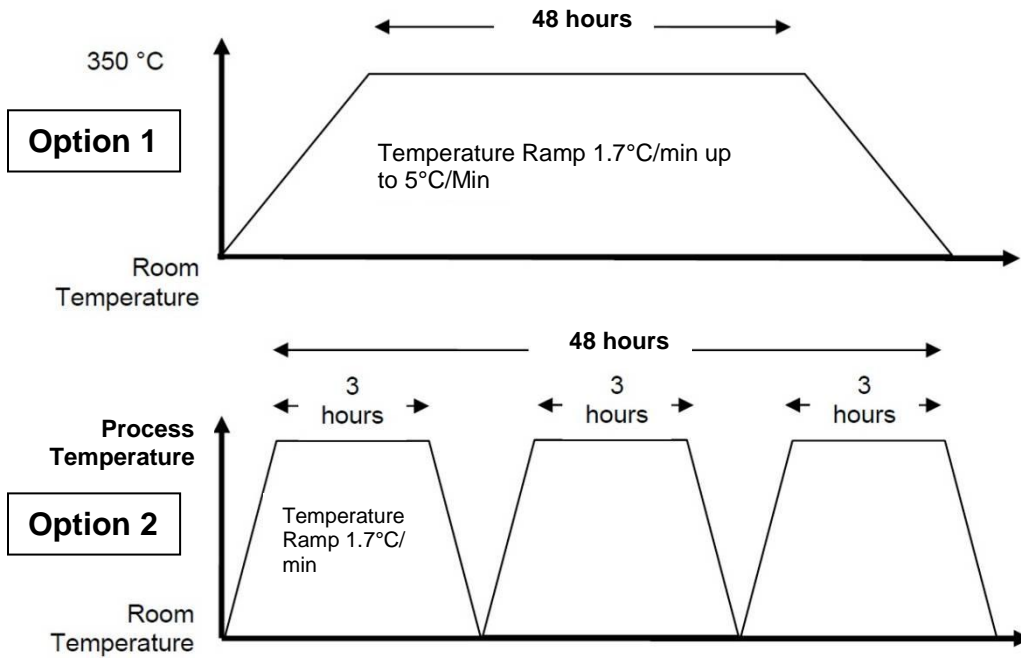

Figure 14. Options for starting high-temperature HEPA Filters
- c. High-temperature (Figure 14):